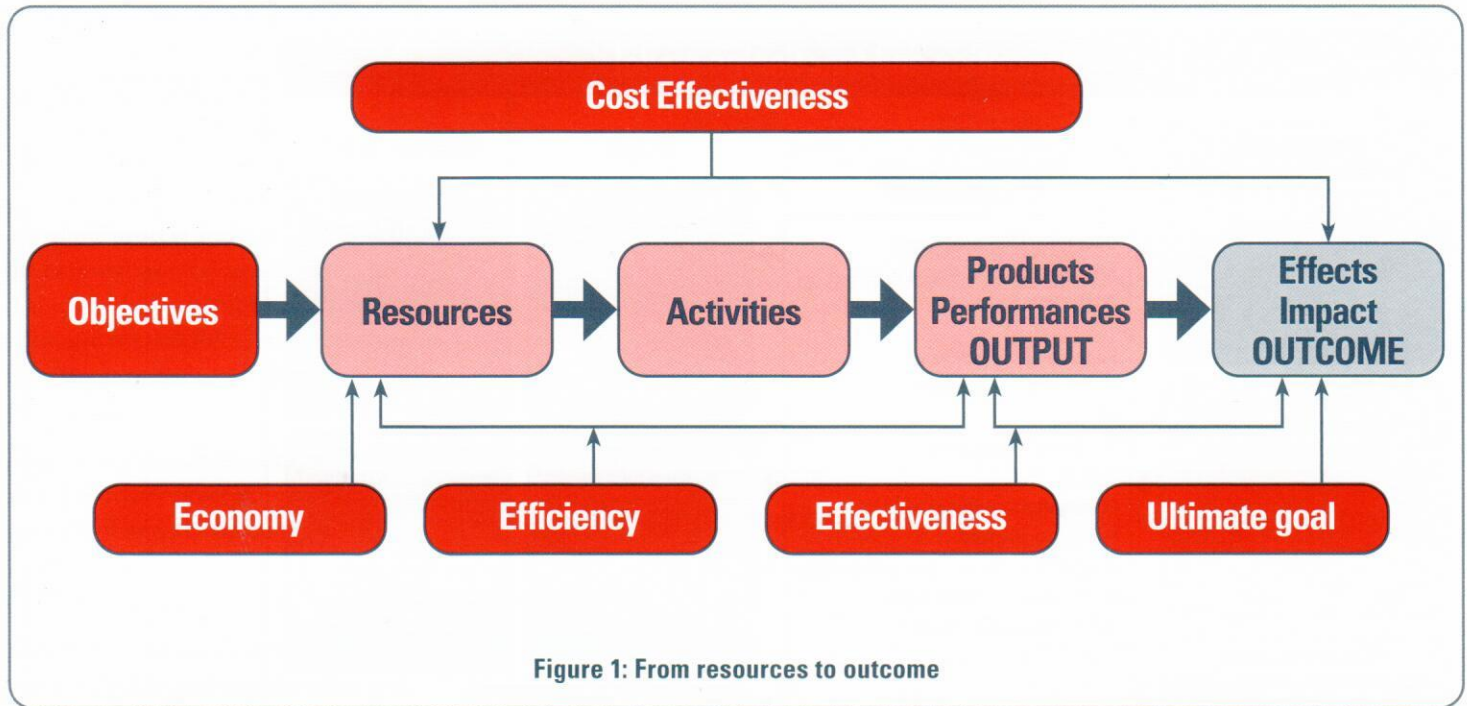

Figure 1: From resources to outcome
Figure 1 illustrates the differences among economy, efficiency, and effectiveness. What do we see so frequently in organizations? The budgets are well managed, comparisons are provided with previous periods (month and year) and how well the raw materials are transformed. But these are all input indicators. Output indicators are important for top management. These provide an idea of the efficiency of their work. However, the most important ones are the outcome indicators; these reflect how effective their decisions are, how well they respond to the expectations and requirements of all stakeholders, including society at large.
- **Process** – A chronological order of activities and decisions transforming an input into an output and outcome (see Figure 1).